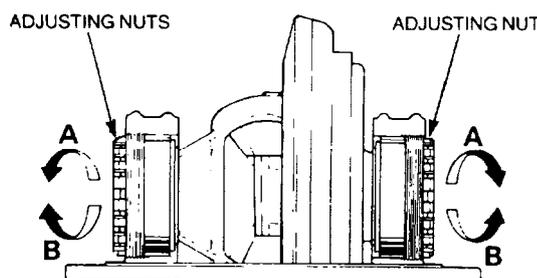

Figure 249 Crown Wheel Backlash Adjustment
- gg. Set the crown wheel-to-pinion backlash to 0.20 to 0.25 mm (0.008 to 0.010 in) with zero end float. Turn the nuts in direction A to reduce backlash or in direction B to increase backlash (Figure 249). Turn both nuts equally during backlash setting to maintain zero end float. Finally, tighten the adjusting nuts one half of a serration and tighten the bearing cap bolts to 81 N.m (60 lbf.ft).